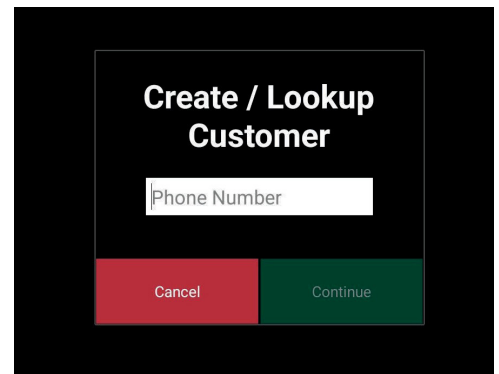

Figure 76
2. The Create/Lookup Customer screen will appear (Figure 76).